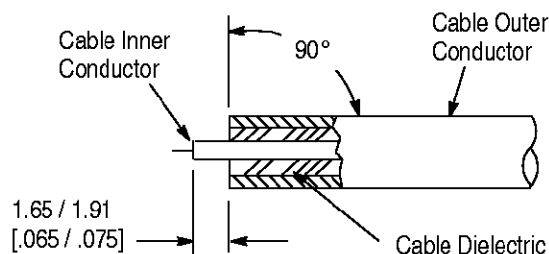

Figure 3
3.1. Preparing the Cable (Figure 3)
Trim cable to the dimensions shown in Figure 3.
- Trim inner conductor to length as shown in Figure 3.